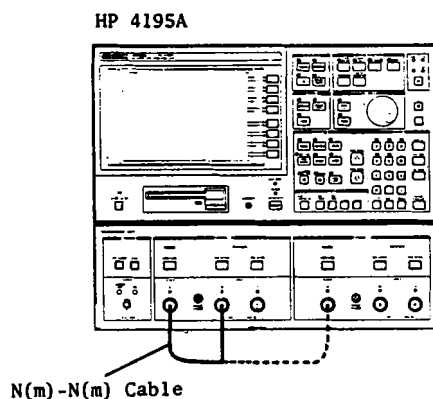

Figure 2-11. Non-sweep Linearity Test Setup
2. Connect the N(m)-N(m) Cable between HP 4195A's **OUTPUT S1** and **INPUT R1** as shown in Figure 2-11.